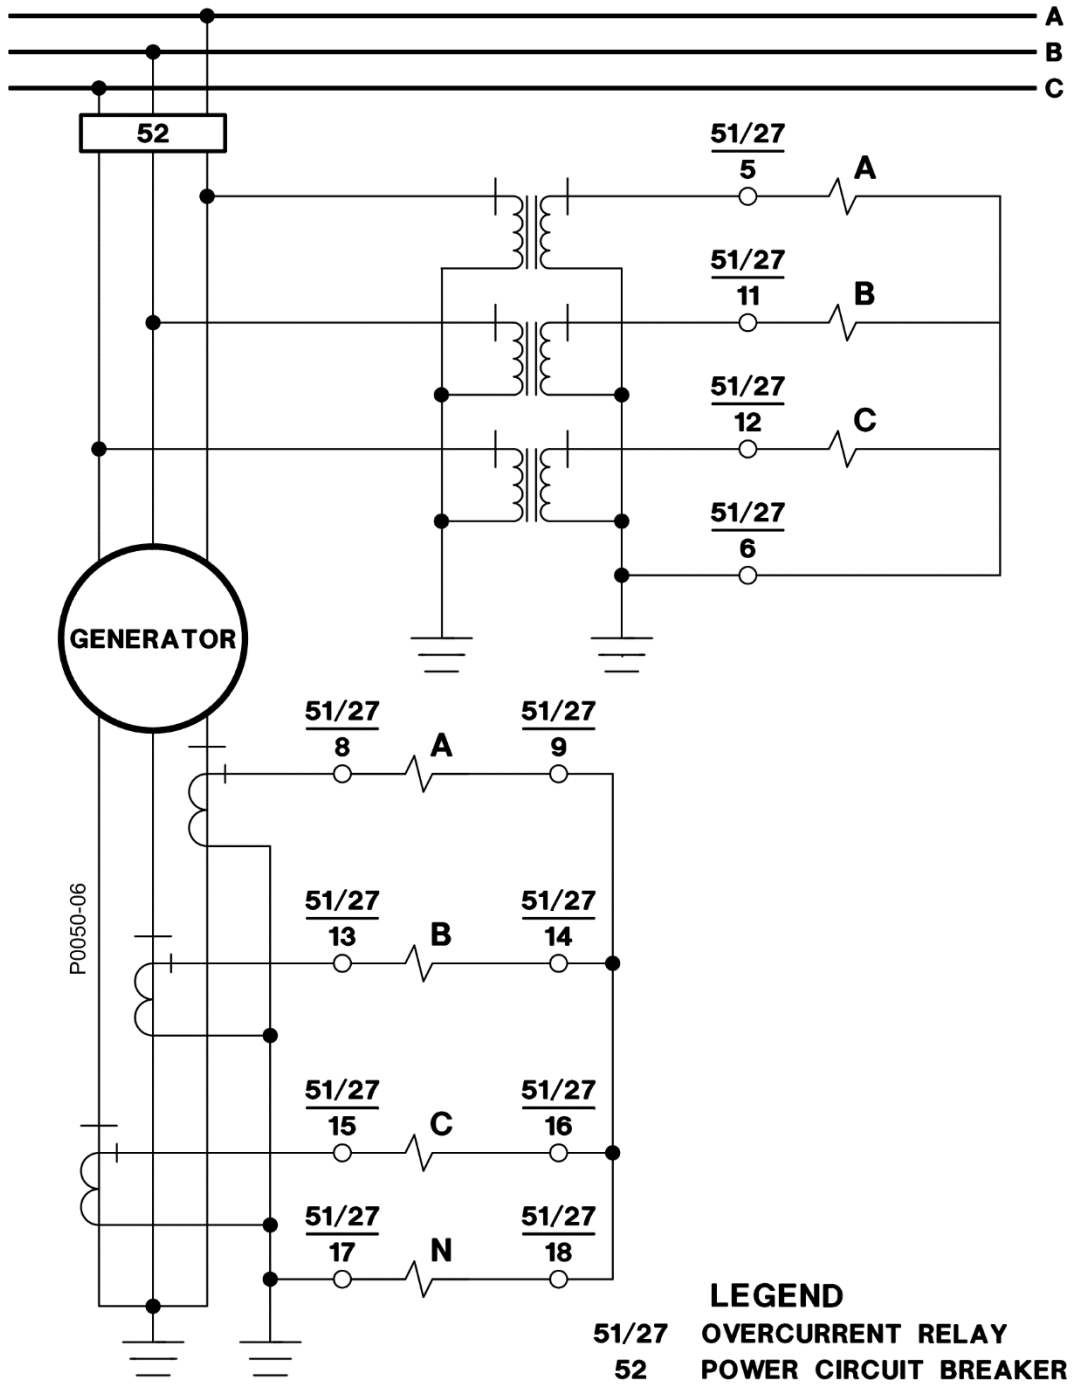

Figure 4-16. Typical Sensing External Connections, Sensing Input Type U or W
- Figure 4-16: Typical Sensing External Connections, Sensing Input Type U or W